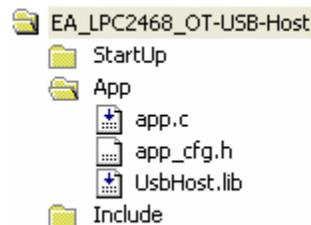

Figure 5-3. Directory structure
- The directory structure appears in IDE as shown in the figure 5-3.